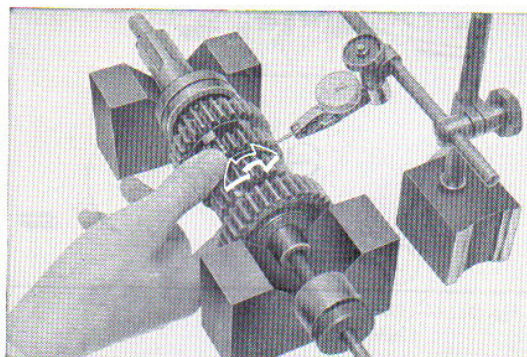

Fig. 3.111 Measuring spline clearance
2. Spline clearances M to M 2-3, C to C 4 and C 5 (Fig. 3.111)